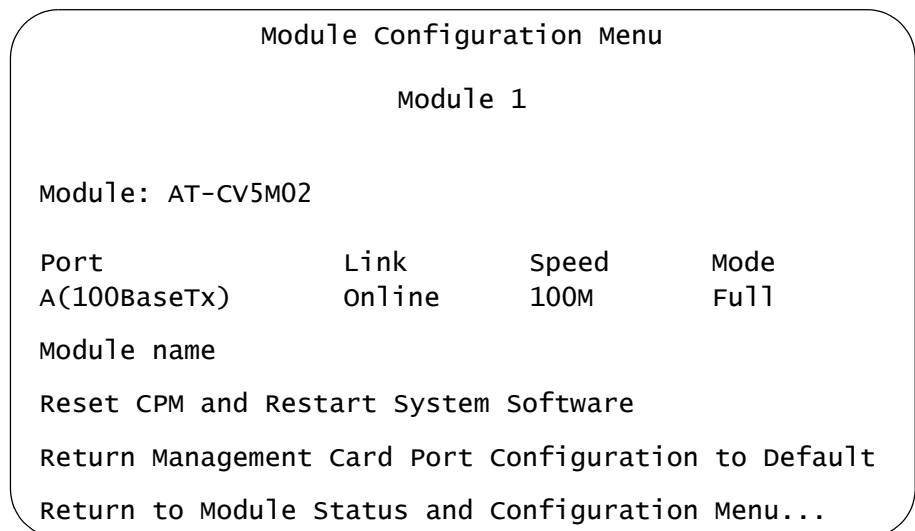

Figure 34. Module Configuration Menu (Management Card)
2. Select the management card from the menu to display the Module Configuration Menu shown in Figure 34.
2. Select the AT-CV5M02 Management Card in the menu to display the Module Configuration Menu shown in Figure 34 on page 107.